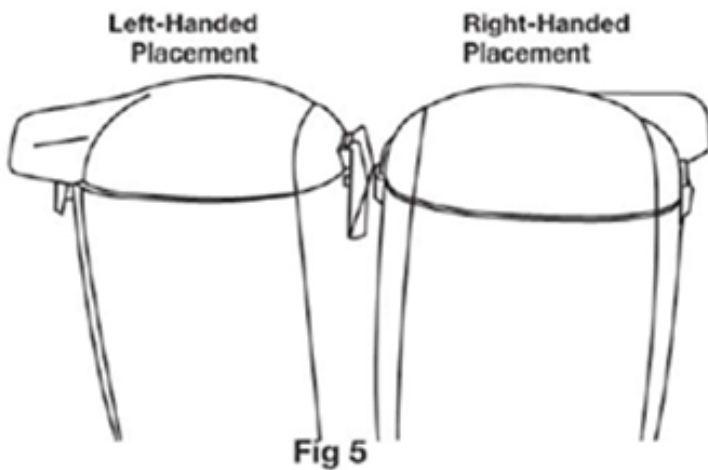

Fig 5
8. The canister lid can be replaced on the unit with the hose opening on the right or left, per your preference. (Fig 5)